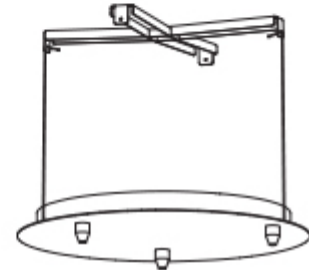

Figure 6
7. Use the two provided wire hanging hooks to hang the canopy cover plate from the cross-bracket. Put the bottom of the hooks into the two triangular holes in the cover plate. (Figure 6)